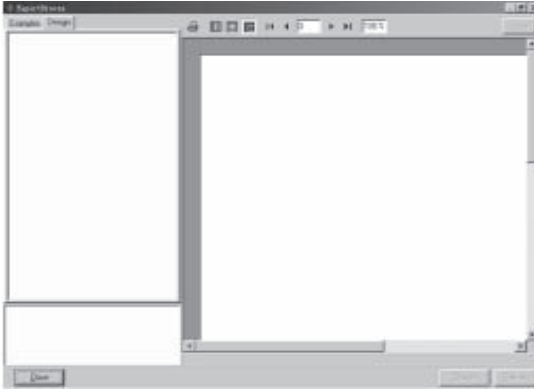
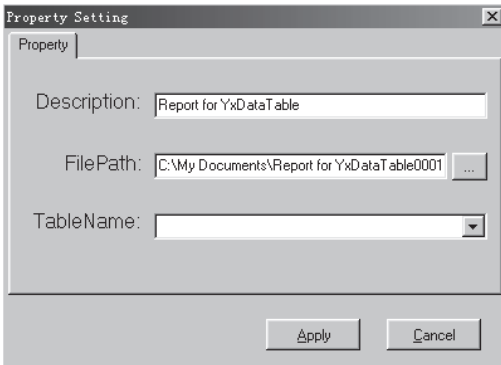

Fig. 8.21
Fig. 8.24
2. Design the Report: Select the page key **Design** and the listing table is empty, if opened for the first time, as in Fig. 8.21.
Referring to Fig. 8.21, enter the **name** describing the use of the report in the position of Description and the path and name of the report in the position of FilePath or click the **quick icon**  to open the dialogue block for selecting the files to be opened. Then click “**Apply**”, as in Fig. 8.24.